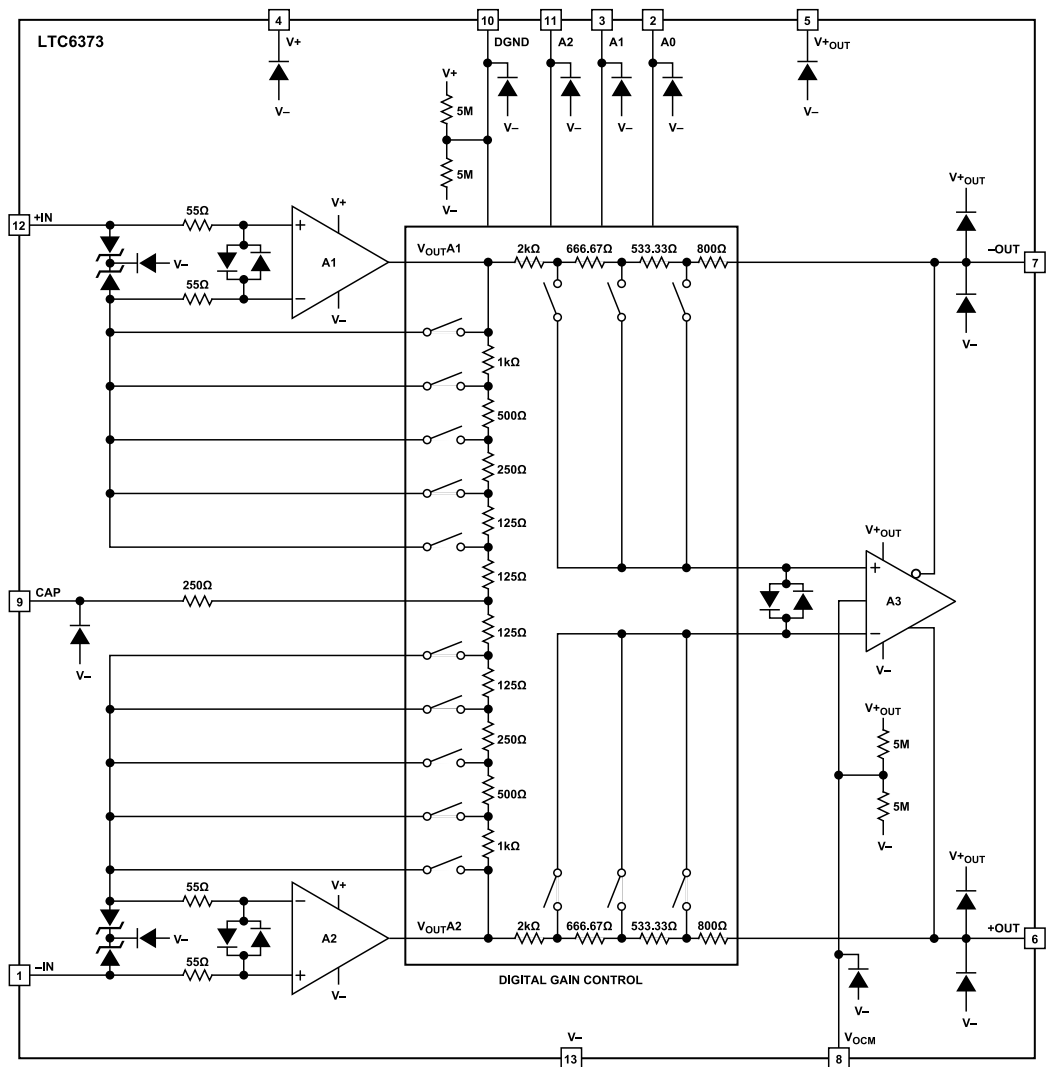
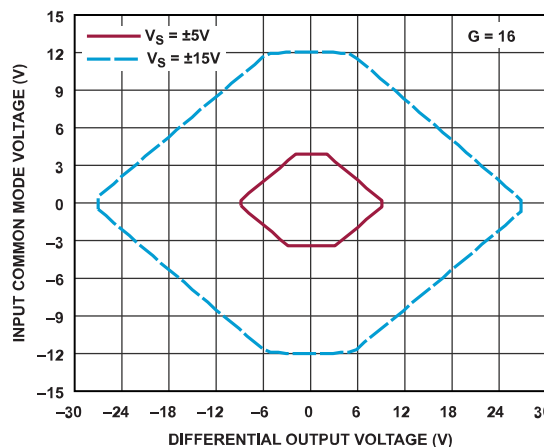
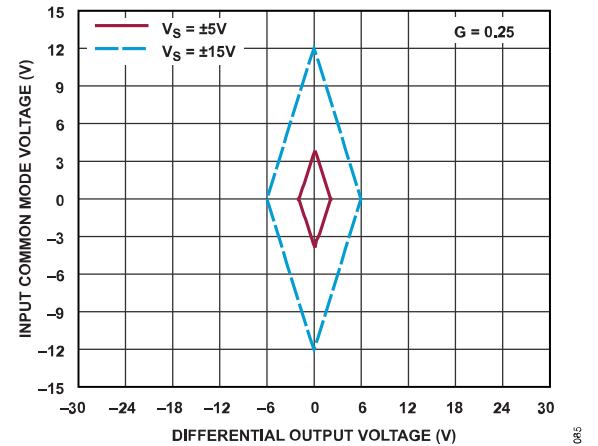

Figure 76. Simplified Block Diagram
Figure 78. Input Common Mode Range vs. Differential Output Voltage at G = 16 with No Load
Figure 84. Input Common Mode Range vs. Differential Output Voltage at G = 0.25 with No Load
The LTC6373 is a monolithic instrumentation amplifier based on the classic 3-op-amp topology, as shown in the Block Diagram of Figure 76. A parallel interface allows users to digitally program gains to one of the seven available settings ($G = 0.25, 0.5, 1, 2, 4, 8,$ and 16 V/V) while the 8th state puts the part in shutdown mode (which reduces the current drawn from the supplies to $220 \mu\text{A}$). Gain control is achieved by switching resistors in an internal, precision resistor array (as shown in Figure 76). Although the LTC6373 has a voltage feedback topology, the gain-bandwidth product increases at higher gain settings because each gain has its own frequency compensation, resulting in increased bandwidth at higher gains and minimum phase variation across all gains.
Instrumentation amplifiers traditionally specify a valid input common mode range and an output swing range. This however often fails to identify swing limitations associated with internal nodes, as they experience a combination of gained differential signal and common mode signal. Referring to the Simplified Block Diagram of Figure 76, the output swing of amplifiers A1, A2, and A3 as well as the common mode input range of the output differential amplifier A3 impose limitations on the valid operating range. The graphs in Figure 78 to Figure 84 show the maximum input common mode voltage limits where a valid output is produced for each gain setting of LTC6373.
Plots in Figure 78 to Figure 84 show the input common mode voltage (V_{ICM}) range allowed for a given differential output voltage ($V_{OUTDIFF}$), under various combinations of gain (G) and supply (V_S) settings. In each plot, the output stage positive supply pin V_{OUT}^+ is tied to the main positive supply pin V^+ , $V_{OCM} = 0$ V (mid-rail) and there is no load.
To prevent damage, the LTC6373 has a comprehensive protection scheme, especially on the input pins, as illustrated in the Simplified Block Diagram of Figure 76. The input current applied to the LTC6373's input pins should be kept under ± 10 mA. To achieve additional input protection, external series resistors and/or low leakage clamp diodes should be used.